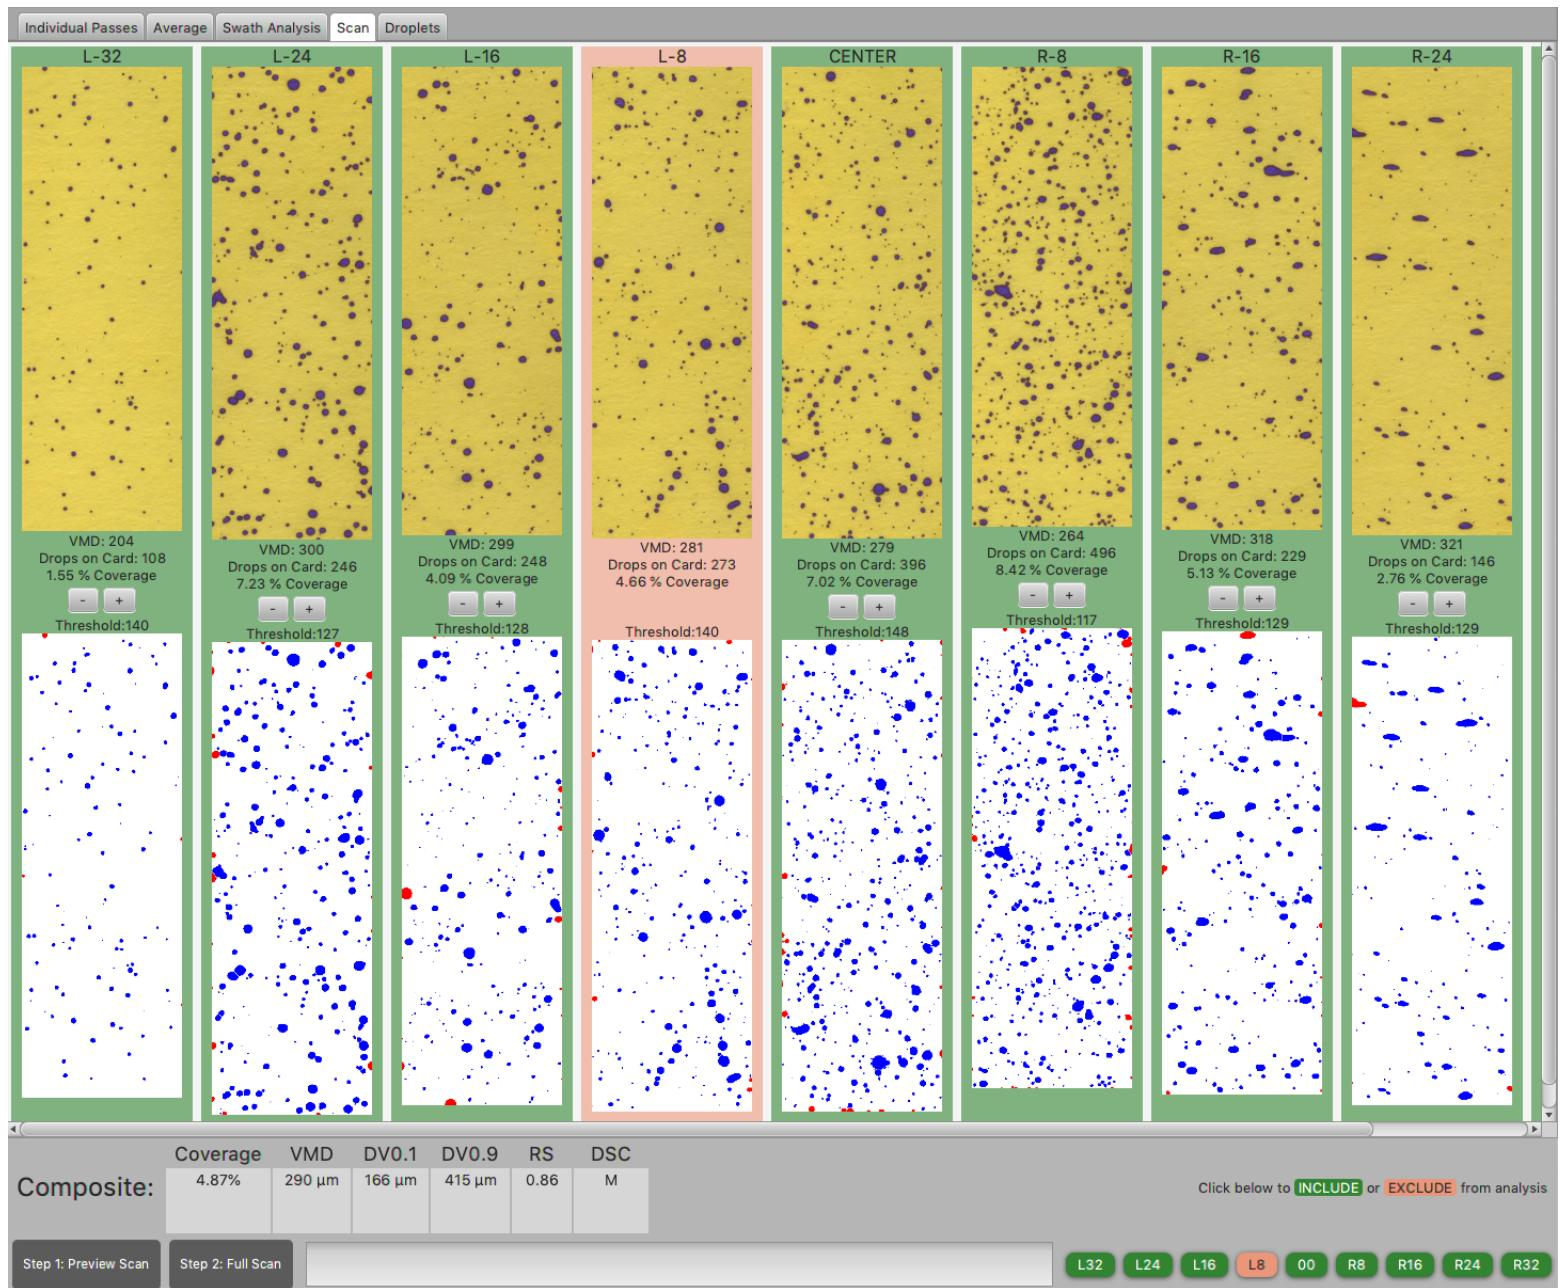
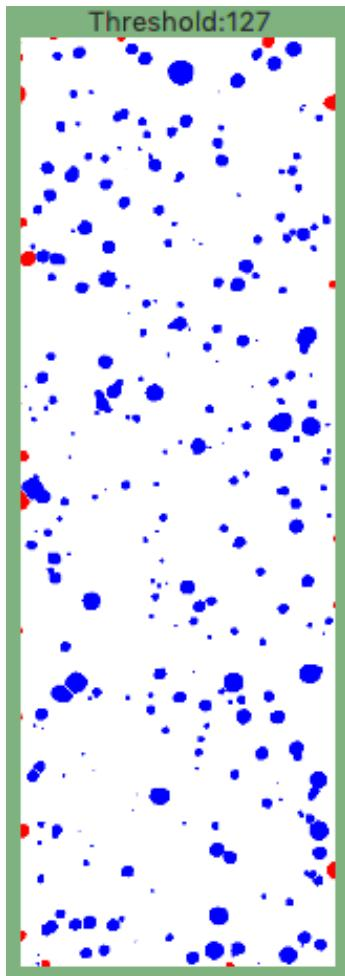

Figure 23: Results from Full Scan
Figure 24: Thresholded Image
The *Scan* tab contains controls for initiating WSP (card) scanning and stain processing (Figure 23). Up to 9 cards may be used. To initiate a scan, follow the steps outlined below.
4. Upon scan completion, card images and relevant information will appear on-screen (Figure 23). The location of each card is displayed above each image.
5. This is a good point to do some quality control. Underneath the normal image of the card is a thresholded binary image showing in blue what the software interprets to be droplet stains (Figure 24). Above that image is an indicator of what threshold is used. The thresholded images can be useful in identifying if your threshold needs adjustment or if the cards you are attempting to process may be overly moisture contaminated. You may choose to adjust the threshold at this point using the [-] or [+] buttons. The composite calculations are based on all cards included in analysis. Any card may be excluded from the composite calculations by clicking its respective green button in the bottom right of the tab. For example, in (Figure 23) the card "L-8" has been taken out of the composite calculations.